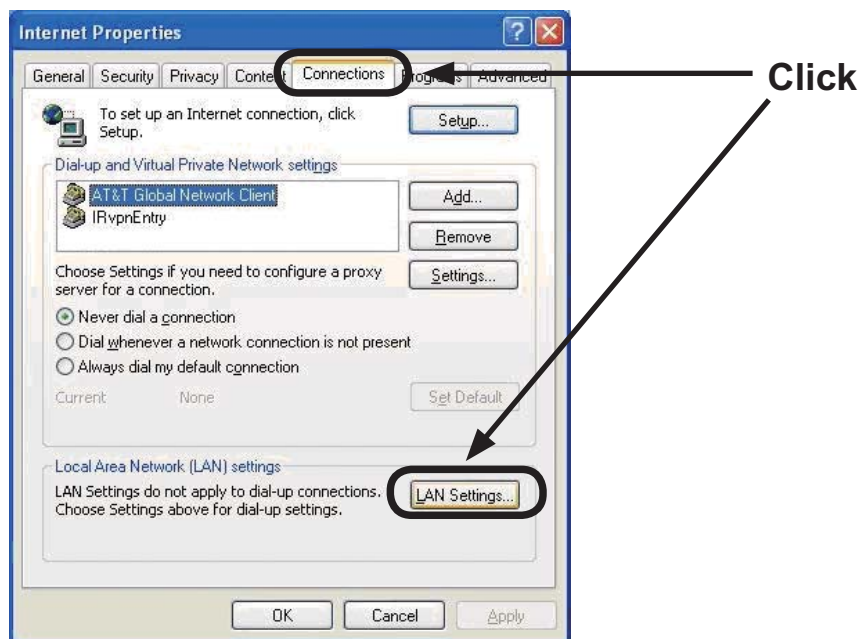

Fig. 2.2.3.b “Internet Properties” window
2) Click “Connections” tab and then click [LAN Settings] button to open “Local Area Network (LAN) settings”. (Fig. 2.2.3.c)